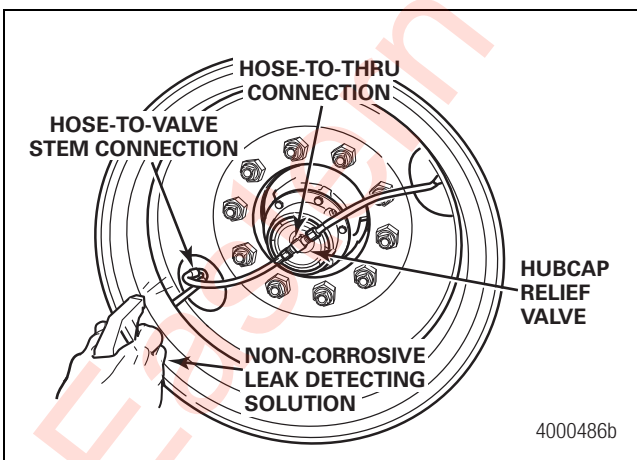

Figure 4.6
6. Use a non-corrosive leak detecting solution to check the hose-to-valve stem connections, hose-to-thru-tee connections and hubcap relief valve for leaks. Figure 4.6. Repair or replace parts as required. Refer to Section 3.